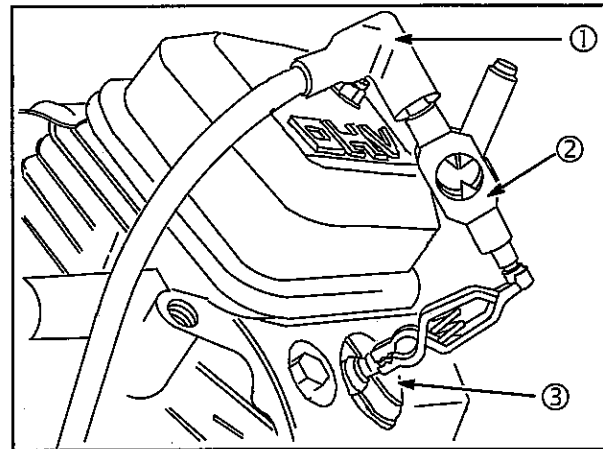

Fig. 5
1. Attach Ignition Tester #19368 (2) between each spark plug lead (1) and spark plug (3), **Fig. 5**.